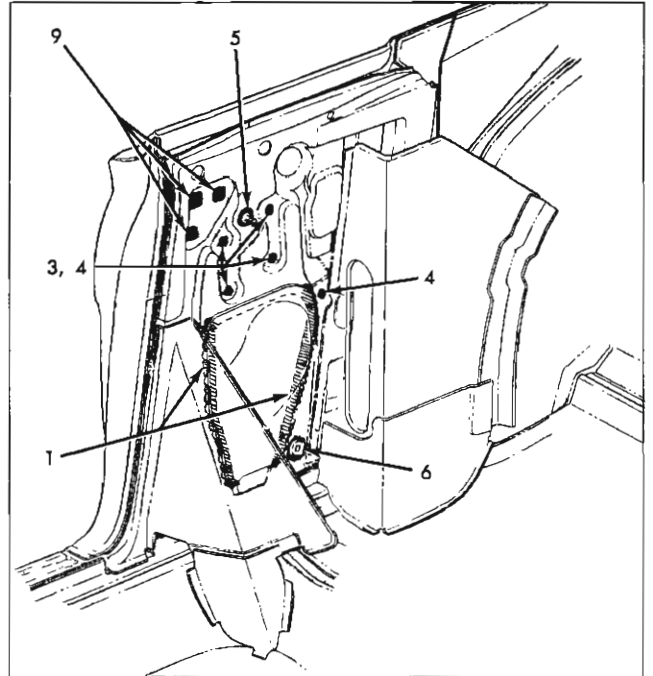

Fig. 4-12 Inner Panel Sealing - 67 Style
- 67 style - Figure 4-12
12. Window Hinge Attaching Screws (67 styles, Fig. 4-12) - Apply body caulking compound over hinge attaching screws. Press compound firmly to assure a good bond and watertight seal.